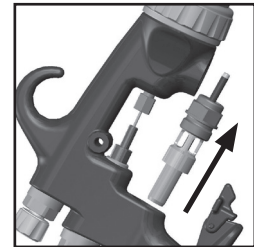

Fig. 16
3. Remove air valve by gripping stem. (See fig 16)